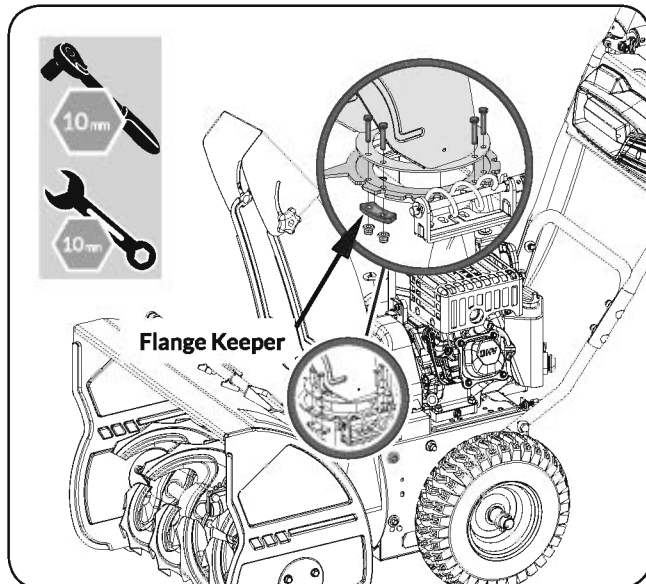

Figure 4c
- While one person holds the chute in place, have the other person secure the three flange-keepers to the bottom of the chute crank flange by sliding the bolts through the chute base holes, sliding the keepers up from the bottom, then securing them with the included nuts. (See **Figure 4c**)